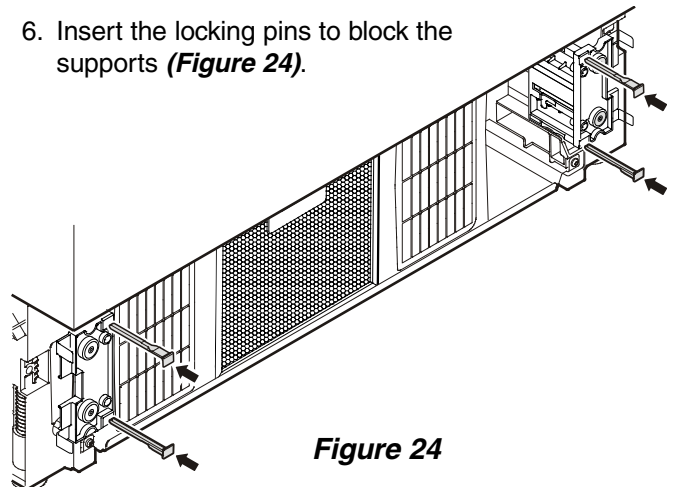

Figure 24
6. Insert the locking pins to block the supports (**Figure 24**).